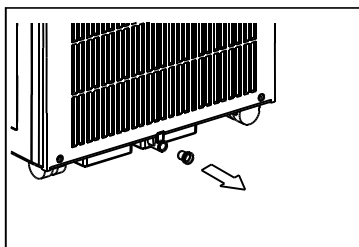

Fig.25
- When the water level of the bottom tray reaches a predetermined level, the unit beeps 8 times, the digital display area shows "P1". At this time the air conditioning/dehumidification process will immediately stop. However, the fan motor will continue to operate(this is normal). Carefully move the unit to a drain location, remove the bottom drain plug and let the water drain away(Fig.25). Restart the machine until the "P1" symbol disappears. If the error repeats, call for service.
- Remove the plug from the bottom drain outlet, all the water in the bottom tray will drain out (See Fig.25).